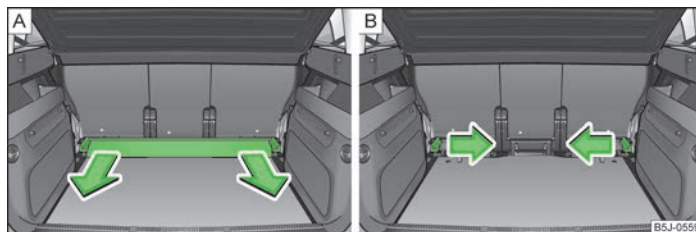

Fig. 52 Boot: Take out lateral carrier rail/Take out fixing wedges
- Remove the lateral carrier rail » Fig. 52 - **A** and remove by pulling in the direction of arrow.
- Remove the fixing wedge » Fig. 52 - **B** and remove by pulling in the direction of arrow. To remove the fixing wedge on the other side of the luggage compartment, proceed in the same way.